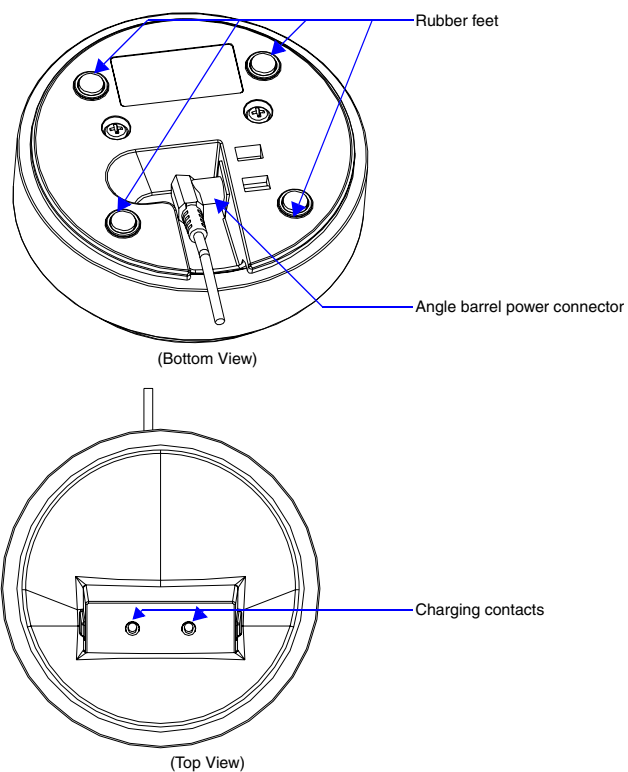

FIG. 7 Mio Remote Charging Base (Top and Bottom view)
1. Connect the terminal end of the power supply to the bottom external power port on the Mio remote charging base. See FIG. 7 for location.